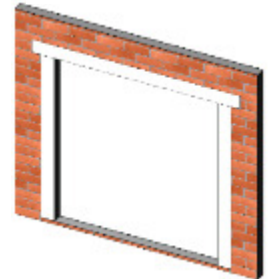

Figure 15:
3. Finally, at the head, embed the flashing into the sealant on the mounting flange and fasten into place. The flashing paper should be cut sufficiently long enough to extend past the flashing paper at each jamb by at least 3" (Figure 15).